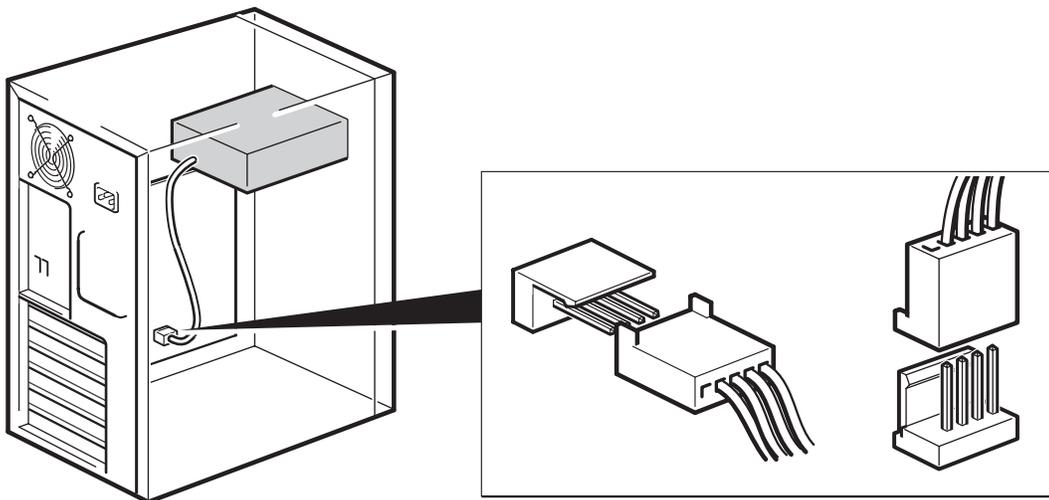

Figure 6 Connecting to a special USB port
- If your server has a special USB port, use the supplied, special USB cable, as illustrated in Figure 6 on page 17. Select the special cable that is appropriate for the pin layout on the USB port.